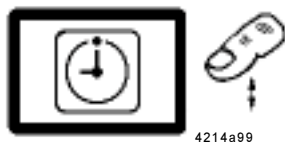

Fig. 28 - Acknowledging a flashing fault signal „Er“
*Note: If a malfunction is present (flashing display), first acknowledge the malfunction, then trigger an additional lubrication (see fig. 28).*
- On pressing the key (fig. 28), the flashing display \* Er \* changes into a continuous light.